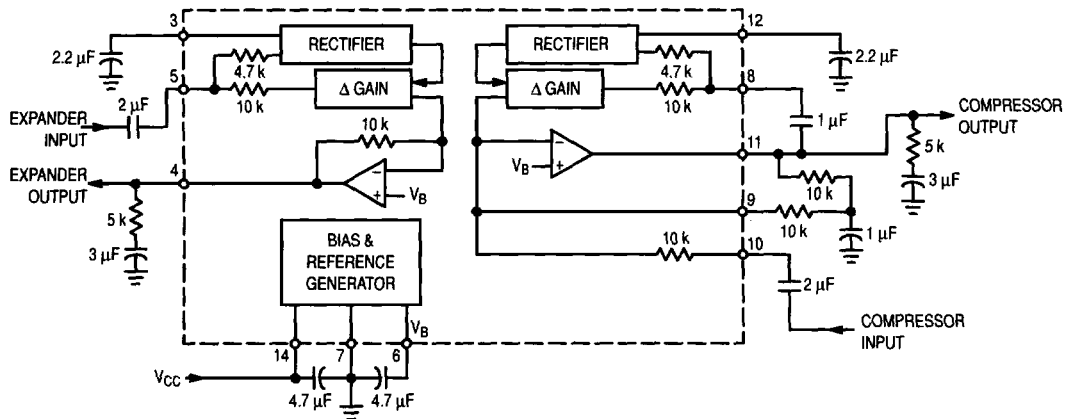

Figure 1. Test Circuit
## ELECTRICAL CHARACTERISTICS (VCC = 5.0 V, f = 1.0 kHz, unless otherwise noted, TA = 25°C, see Figure 1)
**ELECTRICAL CHARACTERISTICS** ( $V_{CC} = 5.0\text{ V}$ ,  $f = 1.0\text{ kHz}$ , unless otherwise noted,  $T_A = 25^\circ\text{C}$ , see Figure 1)